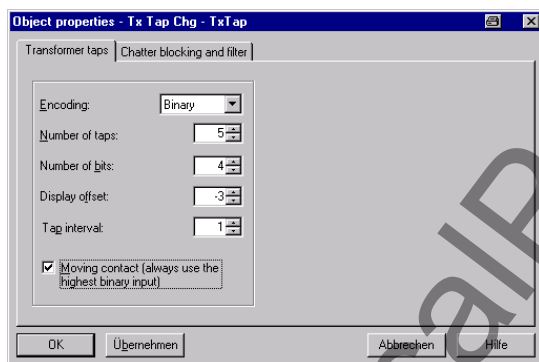

Figure 2-35 Setting examples of object properties of a transformer tap indication
- The characteristics of a transformer tap indication must be set (see figure 2-35). For the common parametrizable coding (binary code, BCD code, „1-of-n“ code) four selection values (number of taps, number of bits, display offset and stage jump) establish which bit patterns correspond to the individual transformer taps and in which form they are represented in the device display and in the event buffer.
Parametrization of the transformer tap „Controller 1“ and the synchronizing function is to be done in accordance with the following table and the input of the object characteristics in accordance with figure 2-35.